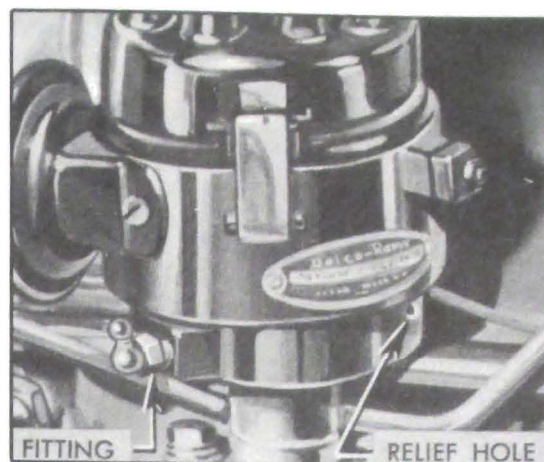

Figure 1-5—Distributor Shaft Lubrication—Series 40
8. *Distributor—Series 40.* Lubricate shaft with chassis lubricant through fitting on housing; the proper amount of lubricant is indicated by lubricant emerging from relief hole in front of distributor housing in a continuous unbroken stream. See figure 1-5.